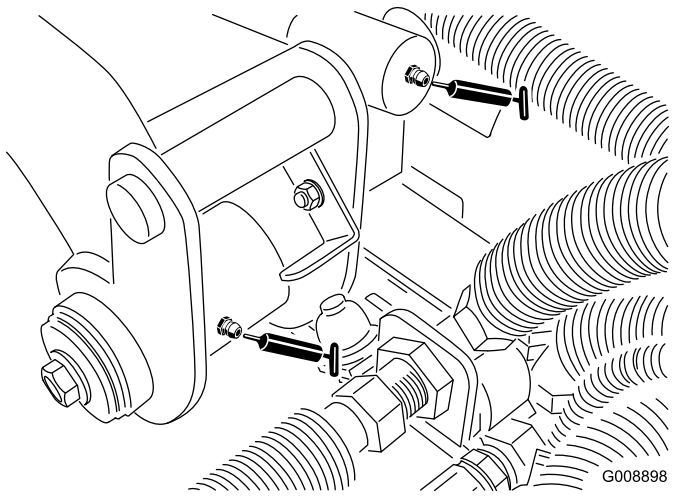

Figure 60
- Rear lift arm pivot and lift cylinder (2 fittings—Figure 60)